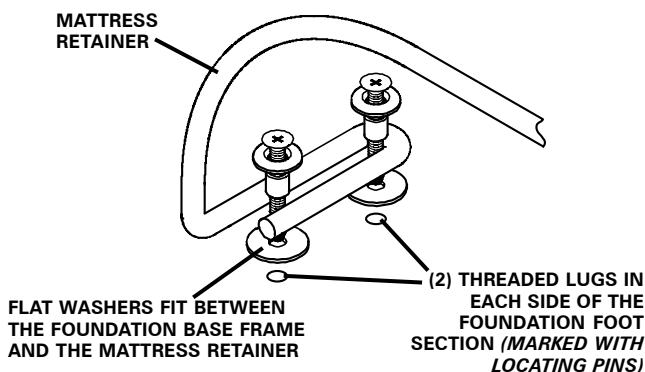

FIGURE 5: Mattress retainer installation.
- c. Locate (4) threaded lugs in the top side of the foot section of the foundation base. The lugs will be marked with locating pins.
- e. Install the mattress retainer bolts (loosely) into the (4) threaded lugs (FIGURE 5).
- f. Slide each U-shaped end of the mattress retainer around the mattress retainer bolts. Position the retainer ends between the spacer and the washer (FIGURE 5).